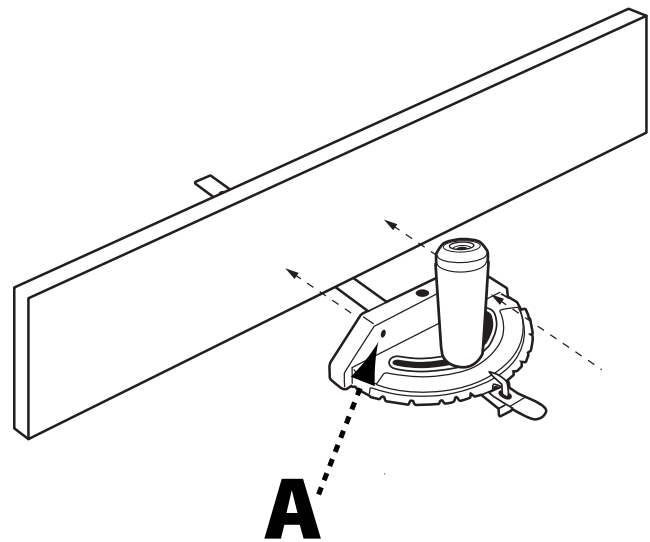

FIGURE 36
This auxiliary wood facing can be fastened to the front of the miter gauge by using two wood screws through the holes (A) provided in the miter gauge body and into the wood facing. See Figure 36. Make sure the screws are long enough to secure the facing, but do not extend all the way through the wood.